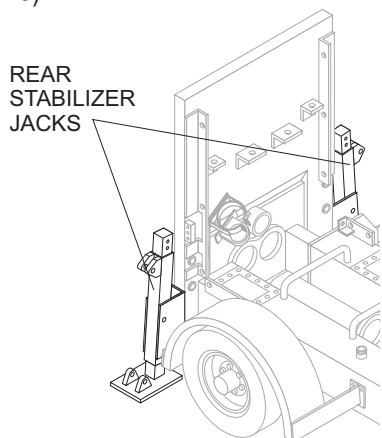

Figure 16. Locating Rear Stabilizer Jacks
1. Locate both the left and right rear stabilizer jacks (Figure 16).